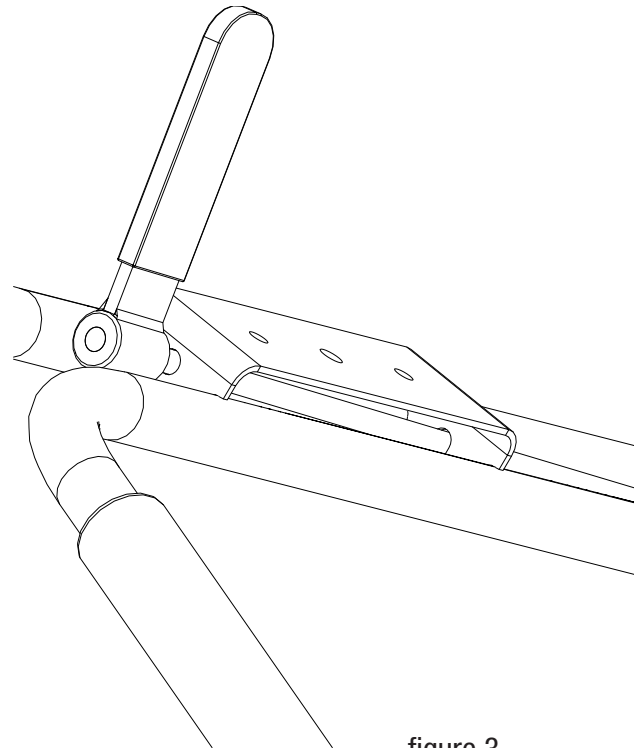
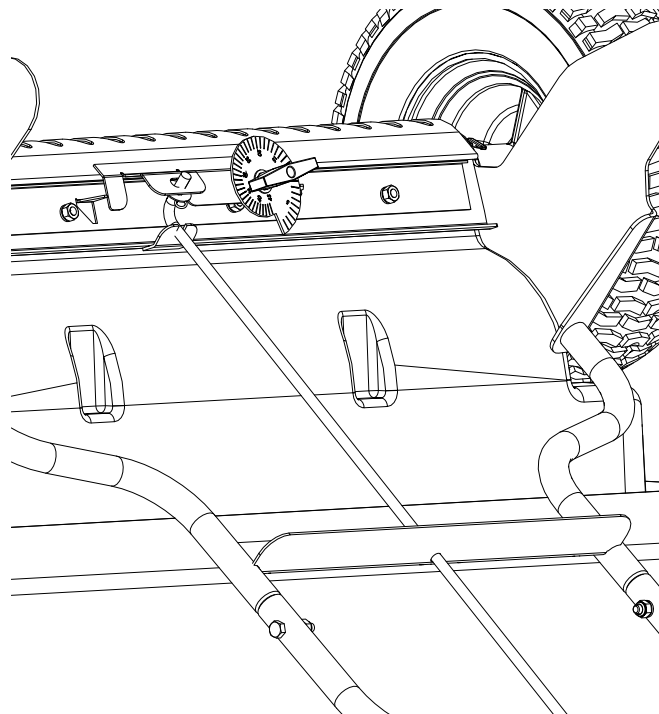

figure 3
figure 1
Step 2: Assemble upper handle assembly to main frame (see figure 1), simultaneously insert rod into upper handle as shown (see figure 3).